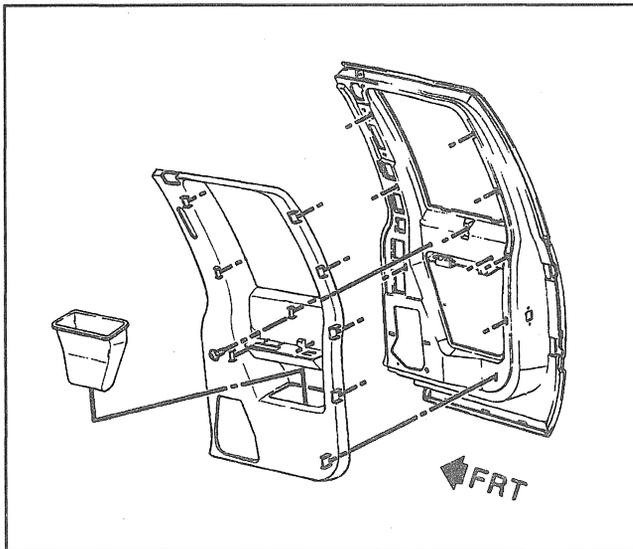

Figure 37—Rear Seat Access Door Trim Panel
4. Trim panel from the door (Figure 37).
1. Retainers to trim panel (Figure 37).